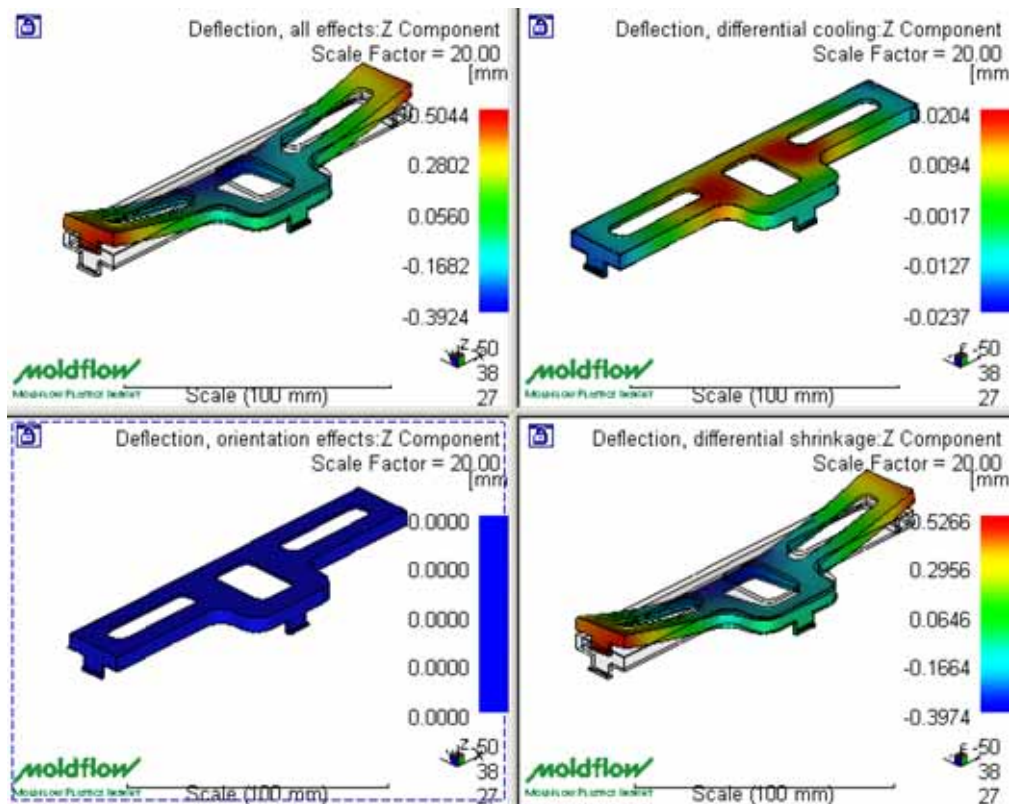

Figure 20: Warp deflection results in a split window display
3. Display the following results, beginning in the top-left window and working in a clockwise direction, as indicated in Figure 20:
- The plot should look similar to Figure 20.